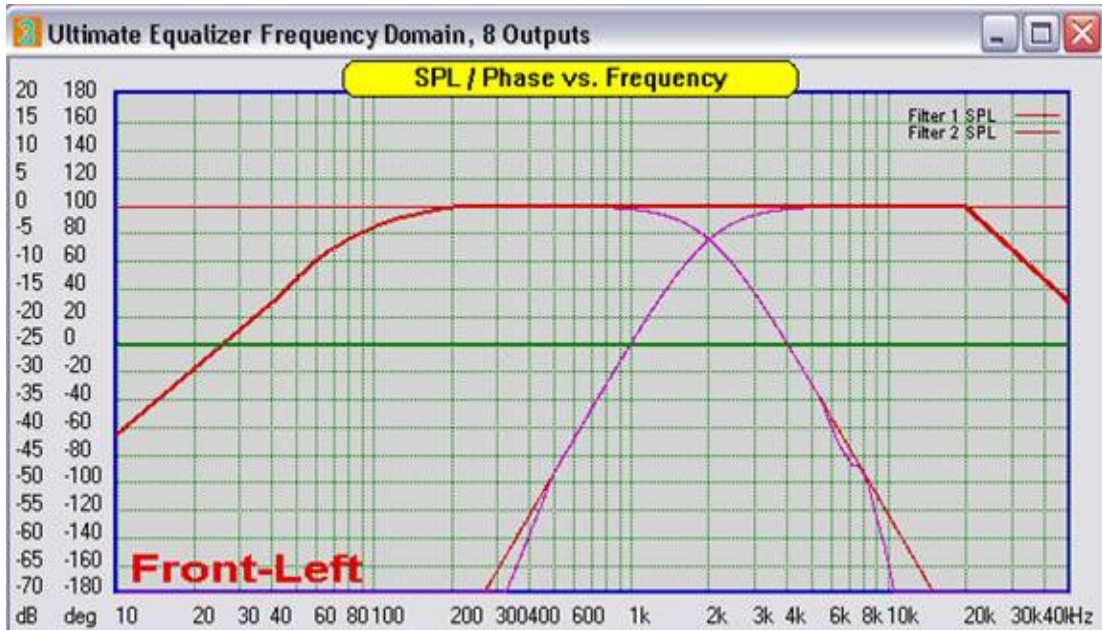

Figure 140. Final system frequency and phase response.
- The final system frequency response is shown in Figure 140 with the correct woofer F1, and where the curves to be plotted were set to the Selected Filter, the Corrected Loudspeaker Driver, and the Corrected System SPL and phase. The system SPL is shown as the thick red line and the system phase by the thick green line. As can be seen, since the driver were measured using the single position method discussed in Appendix A, the Ultimate Equalizer automatically correct for the driver offset resulting in flat response through the crossover.